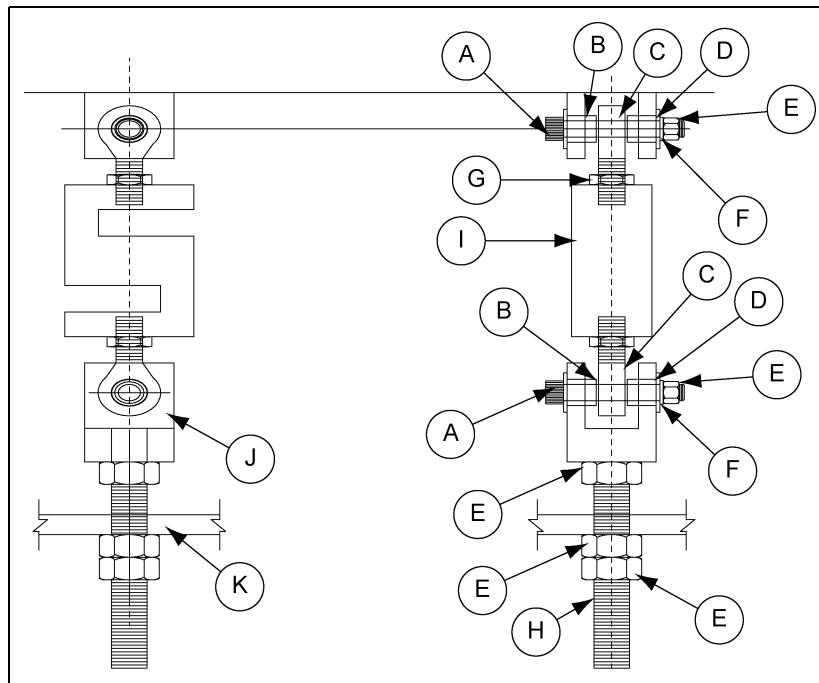

Figure 2A Load Cell Assembly
- Install the load cell with the hardware as shown in the load cell assembly. (See Figure 2A on Page 10.)